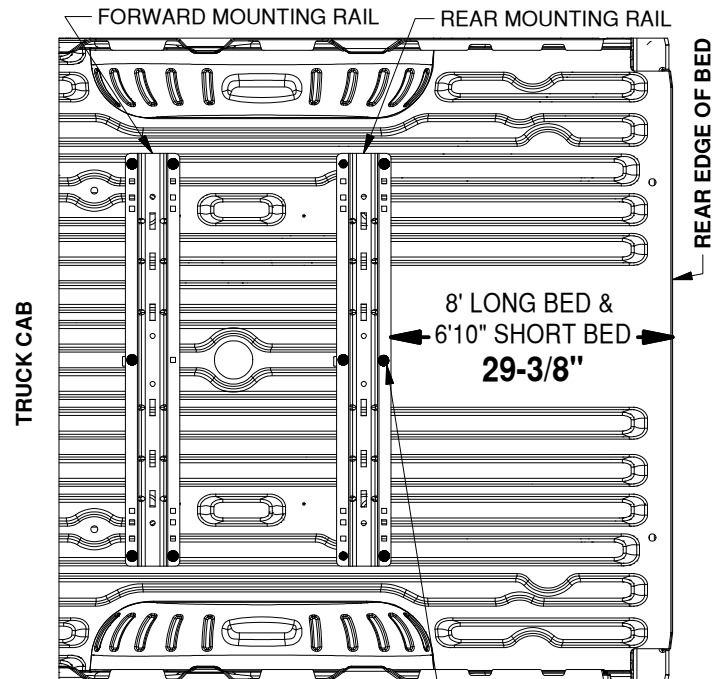

Figure B1: Detail view over bed, showing drill locations for the forward and rear bed rails. DRILL LOCATIONS HIGHLIGHTED BY BLACK DOTS
1. **Layout the rear mounting rail.** Place a mounting rail onto the bed of the truck. Hook a tape measure over the rear edge of the bed (not on any part of the tailgate), measure the location for the mounting rail as shown in Figure B1. Next, center the mounting rail in the bed by measuring the distance on either side from the edge of the rail to the sides of wheel wells. The rail will be centered when both measurements on either side of the rail are the same.
2. **Mark hole locations.** While carefully ensuring the mounting rail does not move, use a center punch tool to mark the 6 drill locations on the rear rail. See Figure B1 for hole marking locations for this installation (forward rails will install on a later step). Once all 6 rear rail locations are clearly marked, move the bed rail out of the way and drill each location with an 1/8" drill bit.
2. **Drill forward mounting holes.** Using the same methods as used for the rear mounting rail mark, drill, check, and enlarge the holes for the forward mounting rail. Refer to "DRILL REAR MOUNTING HOLES" section, steps 2 through 4, on a previous page. Notice that the hole locations are slightly different than the rear rail, see Figure B1 (on the second page).